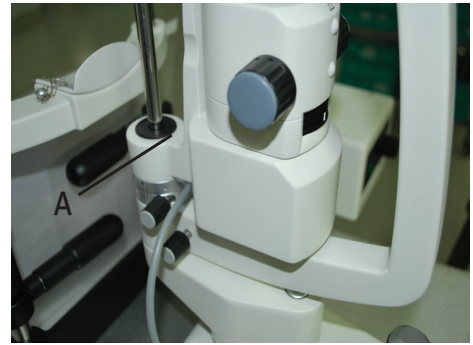

Figure- 24
2. Remove the black dust cover shown as “A” and remove the circlip by using circlip plier. Refer Figure-24.
3. Open the Door to the Fuse Holder by pulling it down. Refer to figure-24.